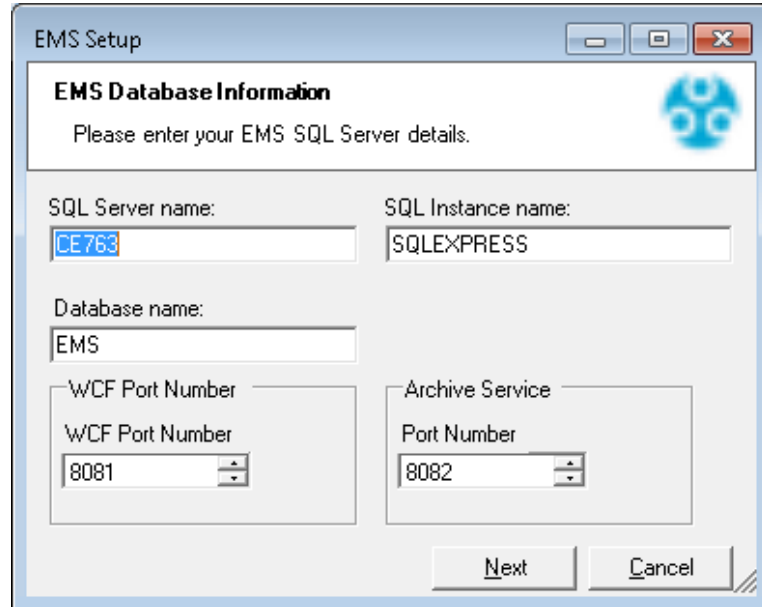

Figure 52
- When the EMS Server Installation is complete, the **EMS Setup - EMS Database Information** window is displayed, populated with a series of default settings as part of the **EMS W900A Server Instance Installation**. See Figure 52 below.